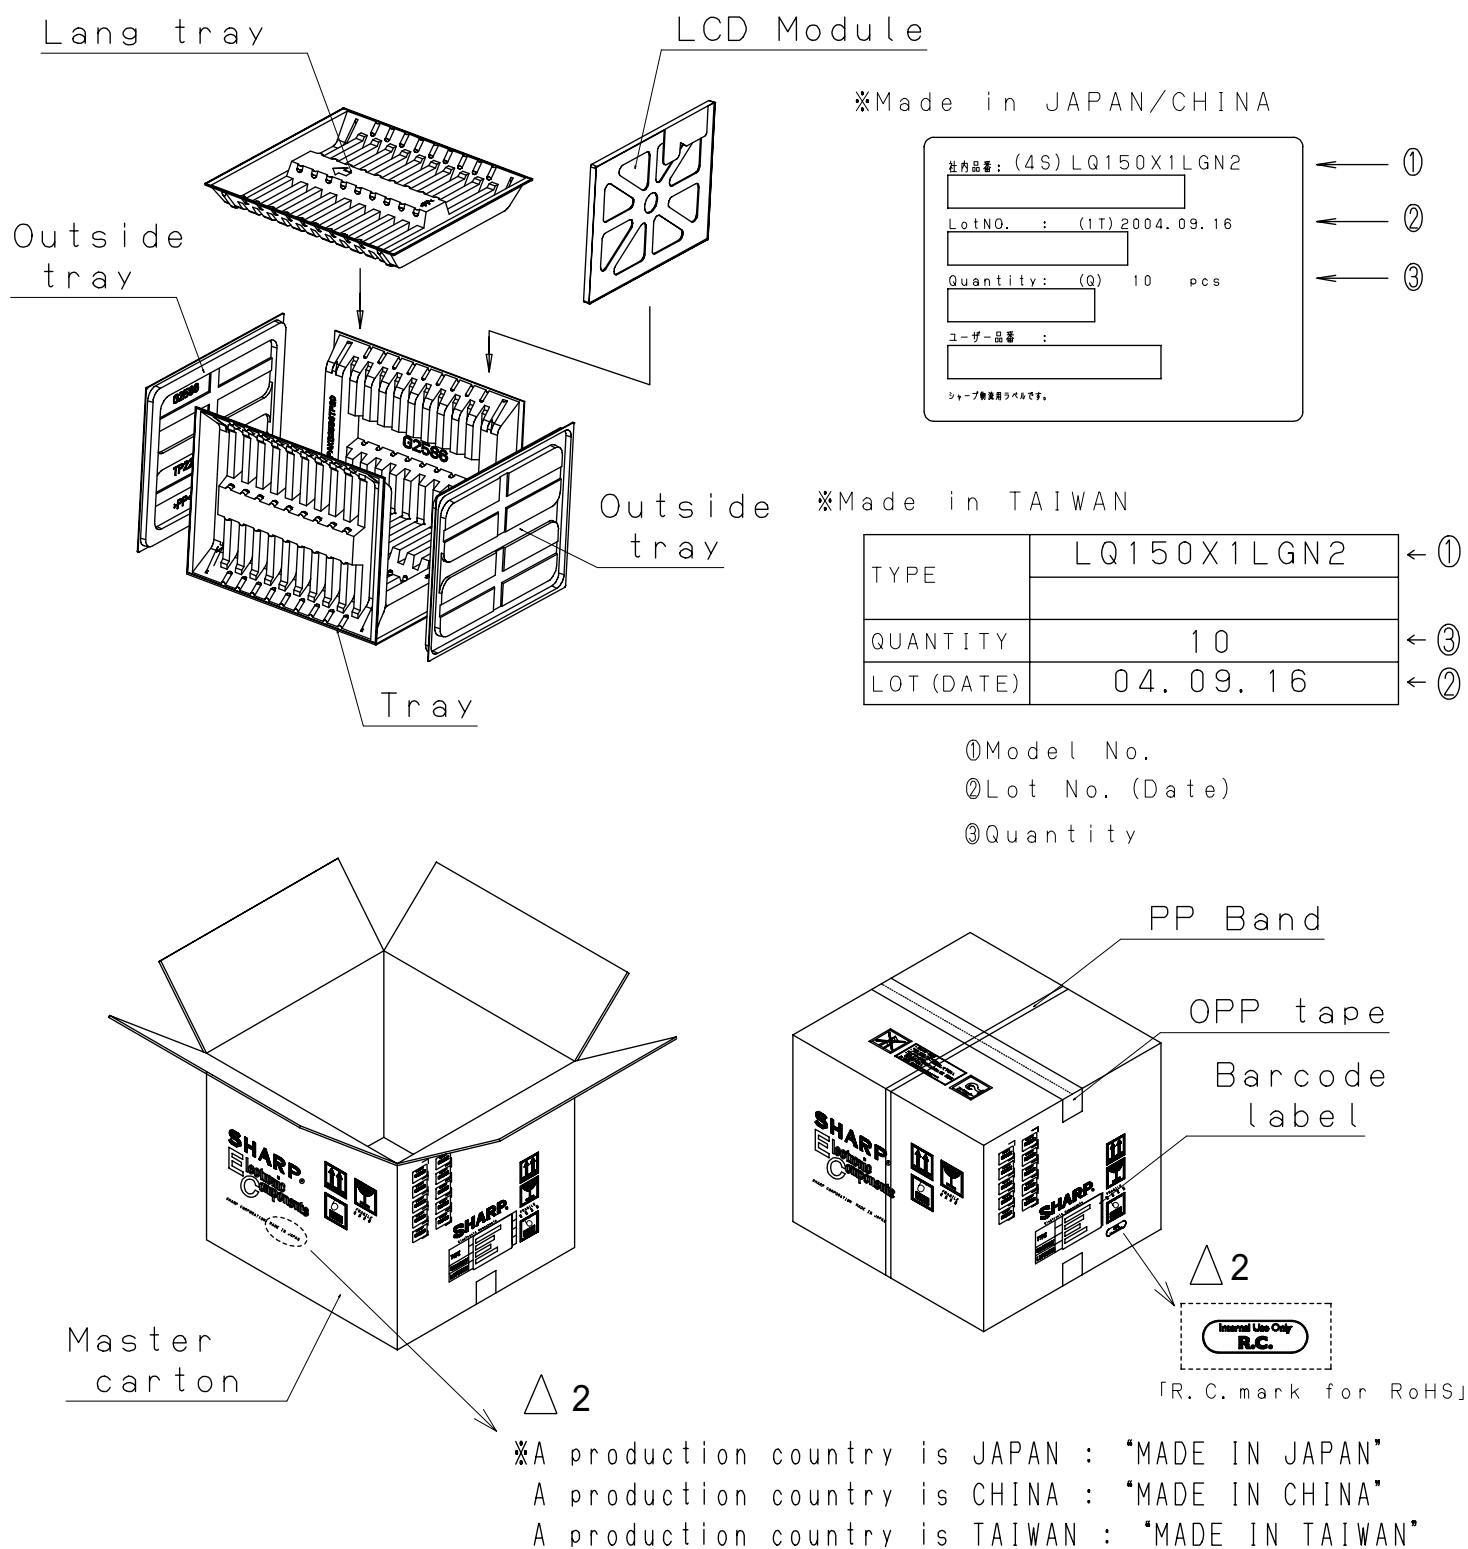

Fig.3 Packing Form (LQ150X1LGN2)
- f) Packing form is shown in Fig.3